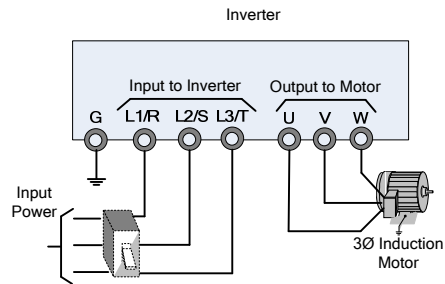

Fig. 3-1-1 Inverter Connections
1. Check that all the electrical connections are secure and correct. (Fig. 3-1-1)